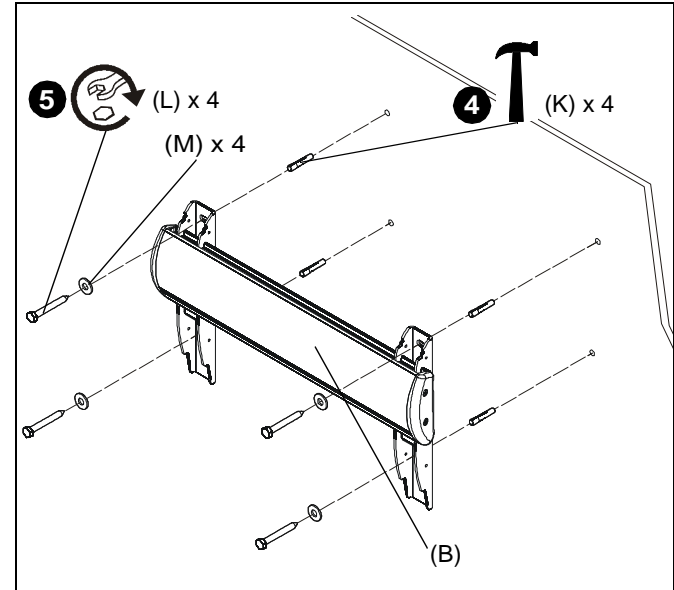

Figure 2
4. Install four concrete anchors (K) into drilled holes. (See Figure 2)
5. Install four 5/16 x 2 1/2" hex head lag screws (L) through four 5/16" washers (M), outer holes of mounting bracket (B) and into concrete anchors (K). (See Figure 2)